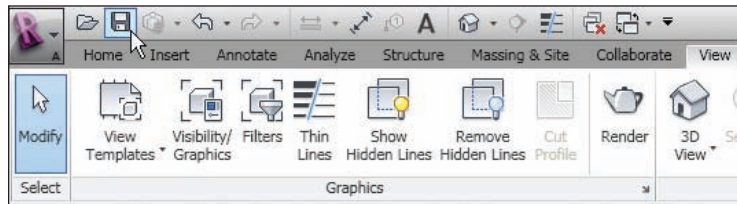

FIGURE 1.50 The traditional save icon will bring up the Save As dialog if the file has never been saved.
1. Click the save icon (see Figure 1.50).